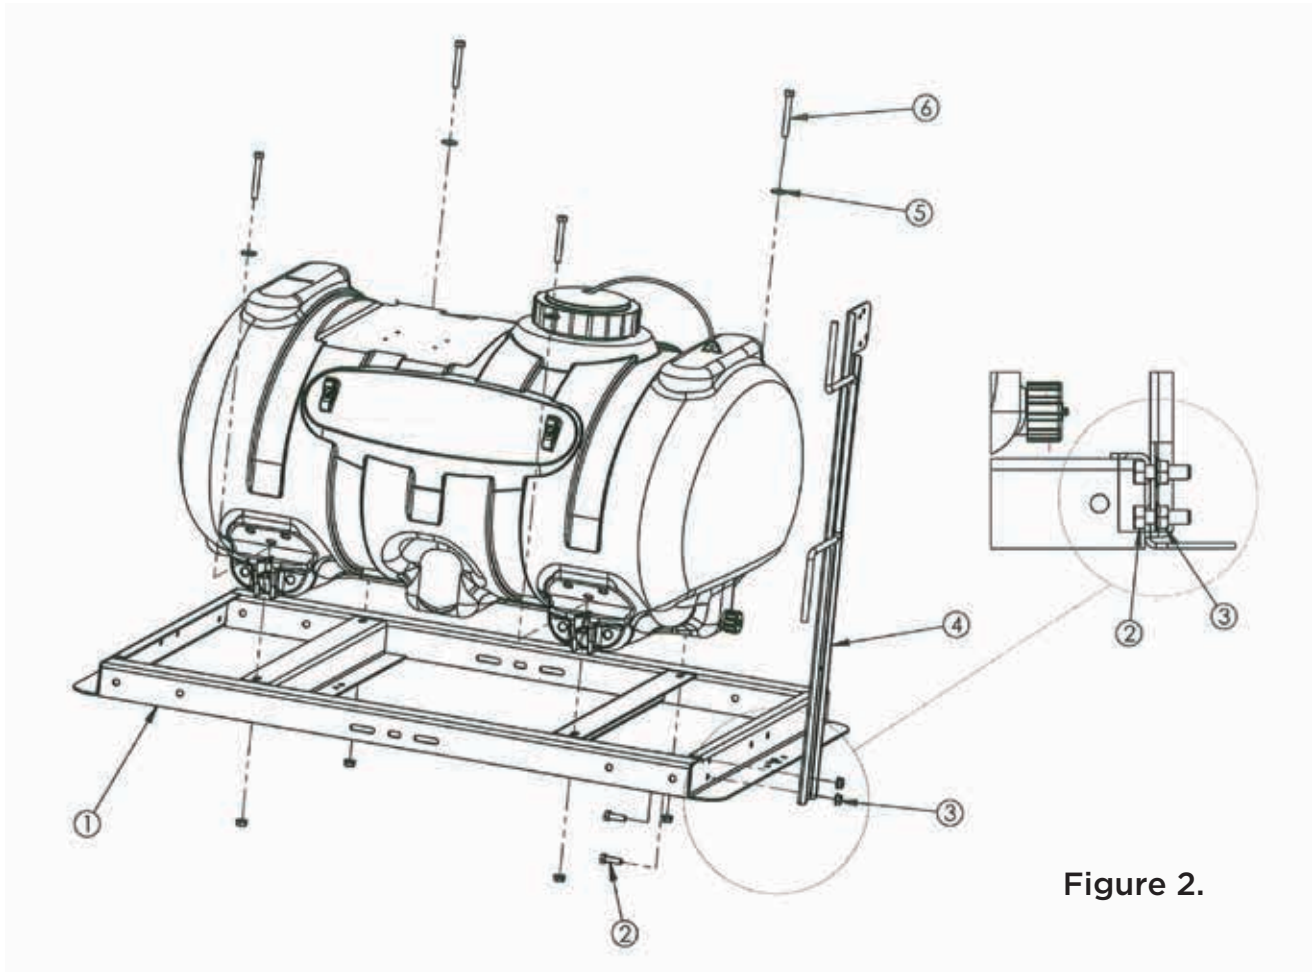

Figure 2.
- 3.) Position Control Post (PN 32-100051) on either end of the skid frame and fasten with two 5/16-18 x 1" cap screws (PN 33-100116) and two 5/16-18" nuts (PN 33-100113), see Figure 2.